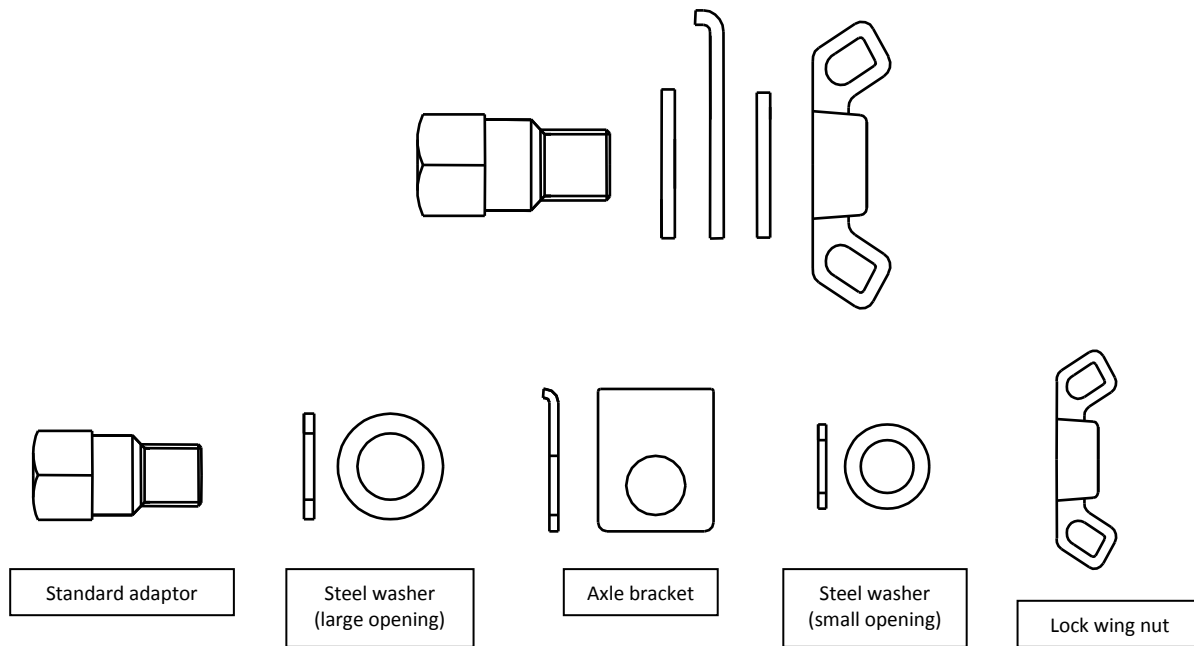

Figure 2 Maya Cycle standard adaptor assembly
C) Assemble the standard adaptor components as per sequence shown in Figure 2.